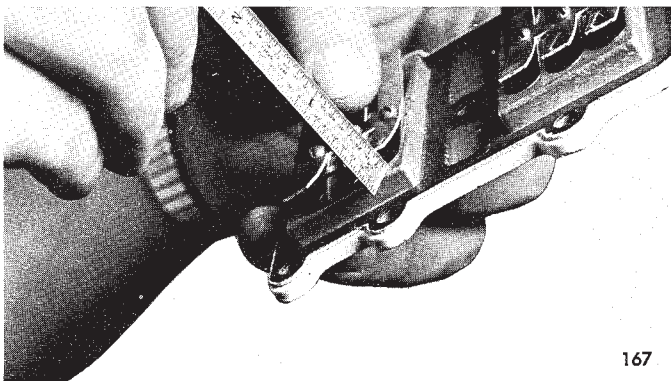

FIGURE 16 — CHECKING REED STOP SPACING
6. Inspect reed stop spacing. Measure the reed height, as shown in Figure 16. Correct reed stop spacing is $3/16" + .010"$. The spacing should be checked from the reed plate to the lower side of the reed, as shown. Reeds must not stand open more than $.005"$. If broken reeds have been found, check reed stop spacing, as this is one of the contributing causes of reed failure.